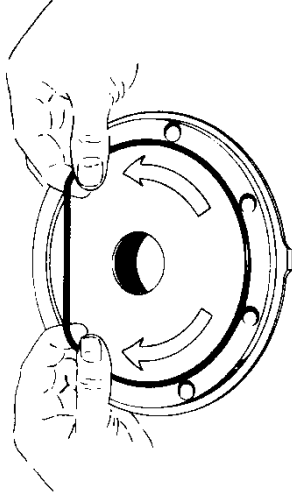

Figure 8 – Head O-Ring Installation
2. Apply a small amount of quality O-ring lubricant in the head recess. With new O-rings installed, push the mechanical seal assembly (153) into the recess of the head with the seal jacket drive tangs inward. The pin in the seal stationary seat MUST be between the lugs in the back of the head recess.
3. Apply a small amount of O-ring lubricant to the O-ring groove on the inside face of the head to facilitate installation. Install a new head O-ring (72) in the groove by laying the O-ring flat and starting in on one side of the groove, stretching ahead with the fingers, as shown in Figure 8.